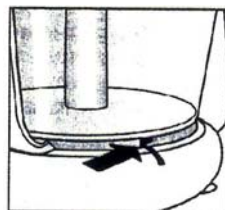

Fig. 2
3. When fitted correctly, the handle will be to the right of the assembly, and the ridge on the base of the bowl will fit into the slot at the back of the processor body. (Fig. 2)